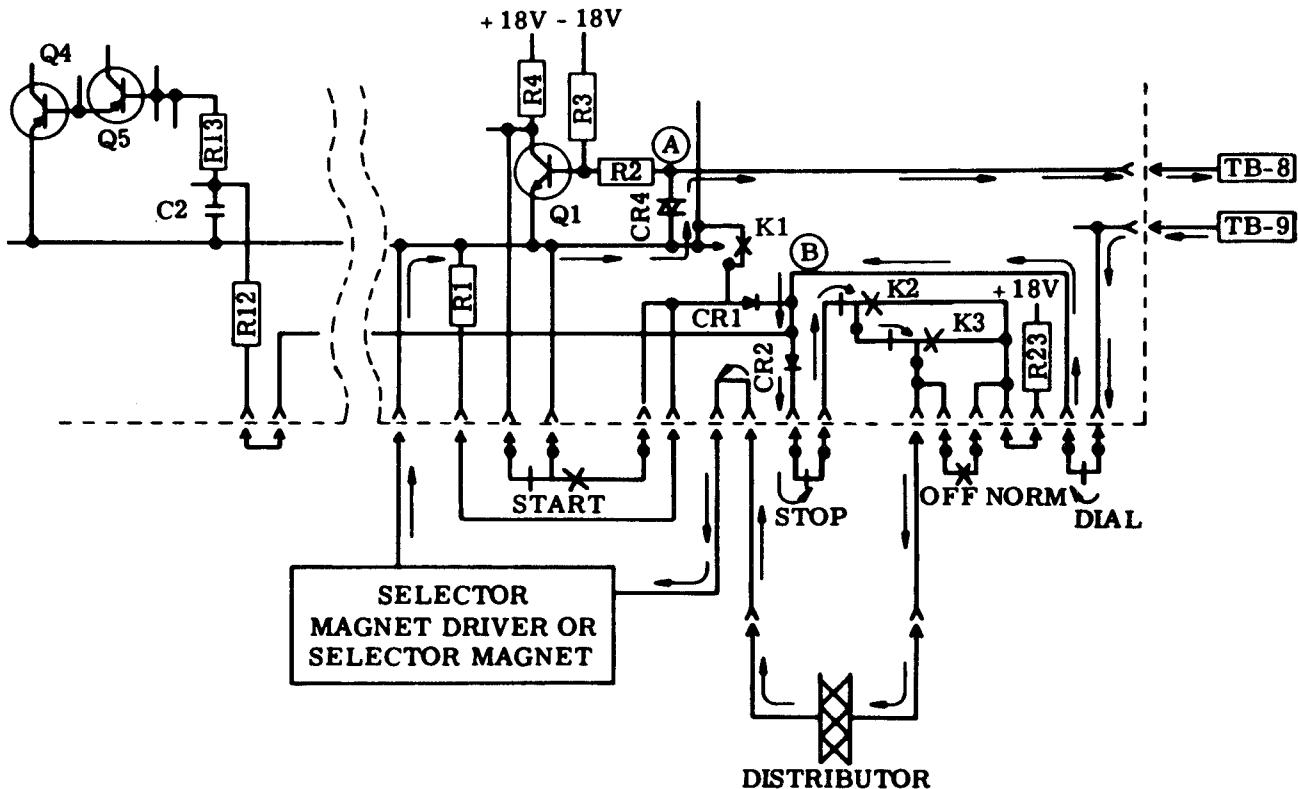

Figure 9 - Local-Remote Control Circuit – Current Flow (Local Connection)
3.30 The schematic diagram of the local remote control circuit (Figure 9) shows the current flow during the local connection.
3.31 Local Connection: If a call is initiated locally, current in the loop will be 0.060 ampere from TB8 to TB9 through the path described in 3.28 before connection. When the loop polarity is reversed by the exchange, current will flow from TB9 to TB8. Diode CR1 becomes reverse-biased and stops current flow except through R12 and R13. This current flow will turn off Q4 and turn on Q6. With Q6 in conduction, the connect circuit will be on, the K2 relay will operate and the CONN (connect) lamp will light. The contacts of the K2 relay will switch and allow the loop current of 0.060 ampere to flow through the distributor and selector magnet driver as shown in Figure 9. Loop current now flows from TB9, through the dial pulse contacts, CR2, K2 relay contacts 2 and 3, K3 relay contacts 1 and 2, the keyboard distributor, the selector magnet driver, and CR4 to TB8.